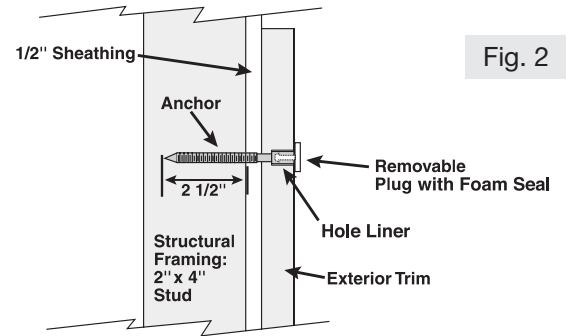

Fig. 2
2. On the panel, locate and mark center of 1-inch holes at four points according to the spacing requirements provided. The center of the 1" hole must not be less than 2" to the edge of the panel (Fig. 5). These locations must provide for solid penetration (minimum 2 1/2 inches) by the anchors into the structural framing. (Fig. 2)